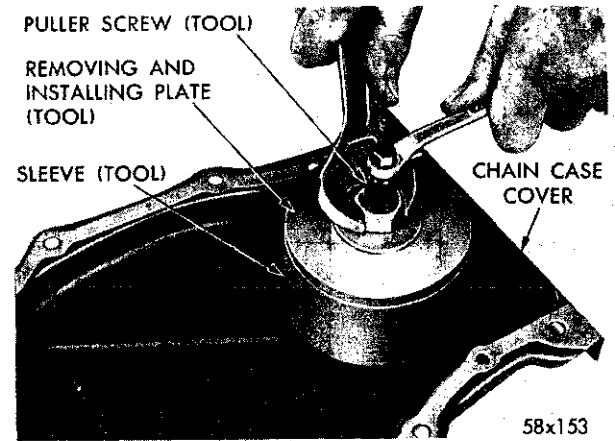

Fig. 23—Removing the Oil Seal
- (3) Place the sleeve over the retainer and place the removing and installing plate into the sleeve.
- (4) Place the flat washer and nut on the puller screw. Hold the center screw and tighten the puller nut to remove the seal (Fig. 23).